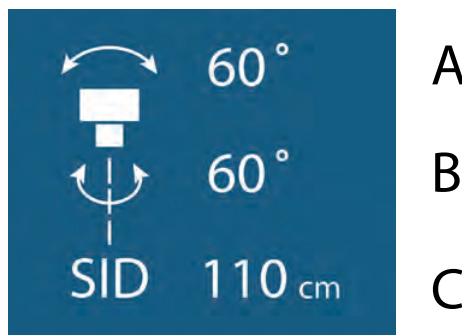

Fig. 4-2 Position information
- C. Source Image Distance (SID), or Height to floor (H) in Free or Auto Position Mode (cm/ inch)
The height to floor (H) is shown in *Free mode* and *Auto position mode*. In all other modes the source image distance (SID) is shown. The unit for the distance can be either cm or inch, and is set in the *Setting menu* (Fig. 4-2 *Position information*).